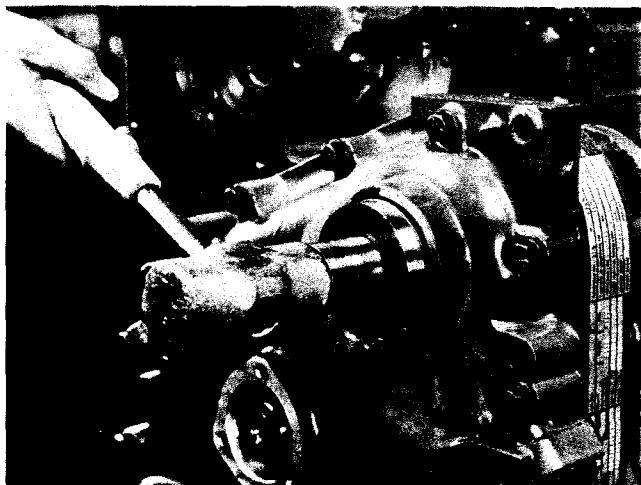

Fig. 14-33, (N114267). Installing accessory drive oil seal
5. Install crankshaft oil seal with ST-1259 Mandrel and 3375151 Pilot (Fig. 14-32). Use ST-1172 Mandrel for tapered nose crankshaft. Install accessory drive seal with ST-1173 Mandrel and ST-386 Pulley Assembly Tool. ST-1173 Mandrel will seat seal to required depth (Fig. 14-33).